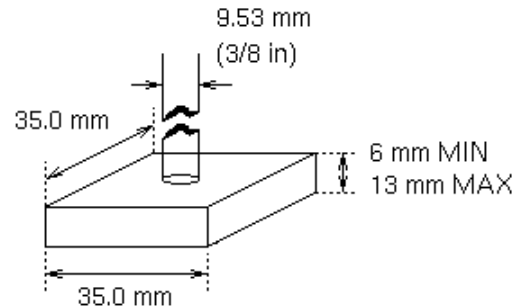

Figure 2. Loading Plate Detail
- The load will be applied by means of a 35mm square plate that is 10mm thick. A 9.53 mm diameter loading rod is attached to the center of the plate from above (**see Figure 2**). The plate will be horizontal, have a flat bottom and will not pivot on the loading rod.